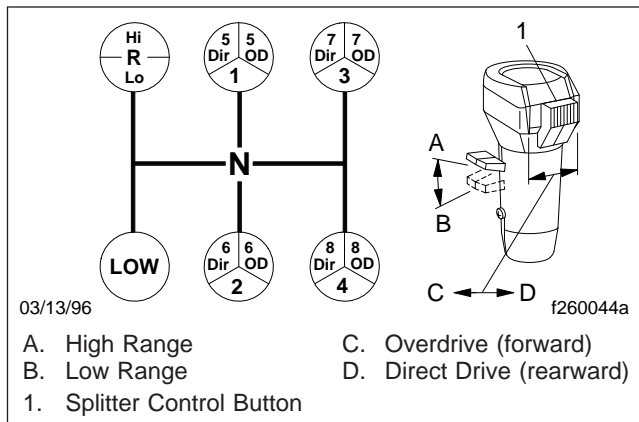
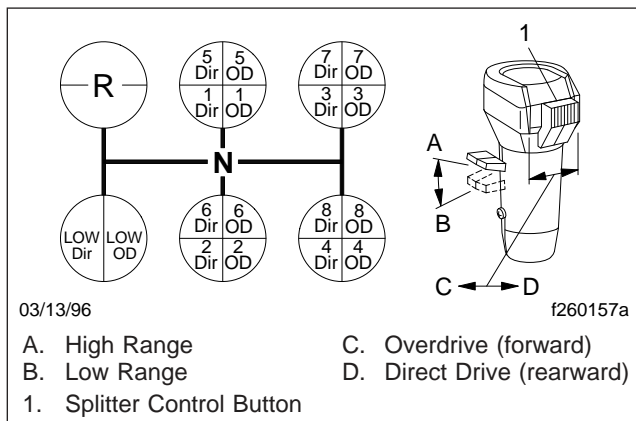

Fig. 8.7, Eaton Fuller 13-Speed Transmission Shift Pattern
Fig. 8.8, Eaton Fuller 18-Speed Transmission Shift Pattern
Eaton Fuller 13-speed transmissions have thirteen forward speeds and two reverse speeds. Each transmission consists of a 5-speed front section, and a 3-speed auxiliary section. The auxiliary section contains low- and high-range ratios, plus an overdrive splitter gear. See Fig. 8.7 for the shift pattern.
2. Position the range preselection lever down, into low range. See Fig. 8.7 or Fig. 8.8.
3. Make sure the splitter control button is in the direct (rearward) position. See Fig. 8.7 or Fig. 8.8.
To shift from low direct to low overdrive, move the splitter control button (Fig. 8.8) into the overdrive (forward) position, then immediately release the accelerator. Press and release the clutch pedal. After releasing the clutch, accelerate again.
Shift upward from low to 1st gear, 2nd, etc. until 4th gear, double-clutching between shifts, and accelerating to 80 percent of engine governed speed. See Fig. 8.7.
Shift upward from low overdrive to 1st direct by first moving the splitter control button into the direct (rearward) position (Fig. 8.8). Move the shift lever, double-clutching, to the 1st gear position.
To shift from 5th direct to 5th overdrive, move the splitter control button (**Fig. 8.7**) into the overdrive (forward) position, then immediately release the accelerator. Press and release the clutch pedal. After releasing the clutch, accelerate again.
To shift from 5th direct to 5th overdrive, move the splitter control button (**Fig. 8.8**) into the overdrive (forward) position, then immediately release the accelerator. Press and release the clutch pedal. After releasing the clutch, accelerate again.